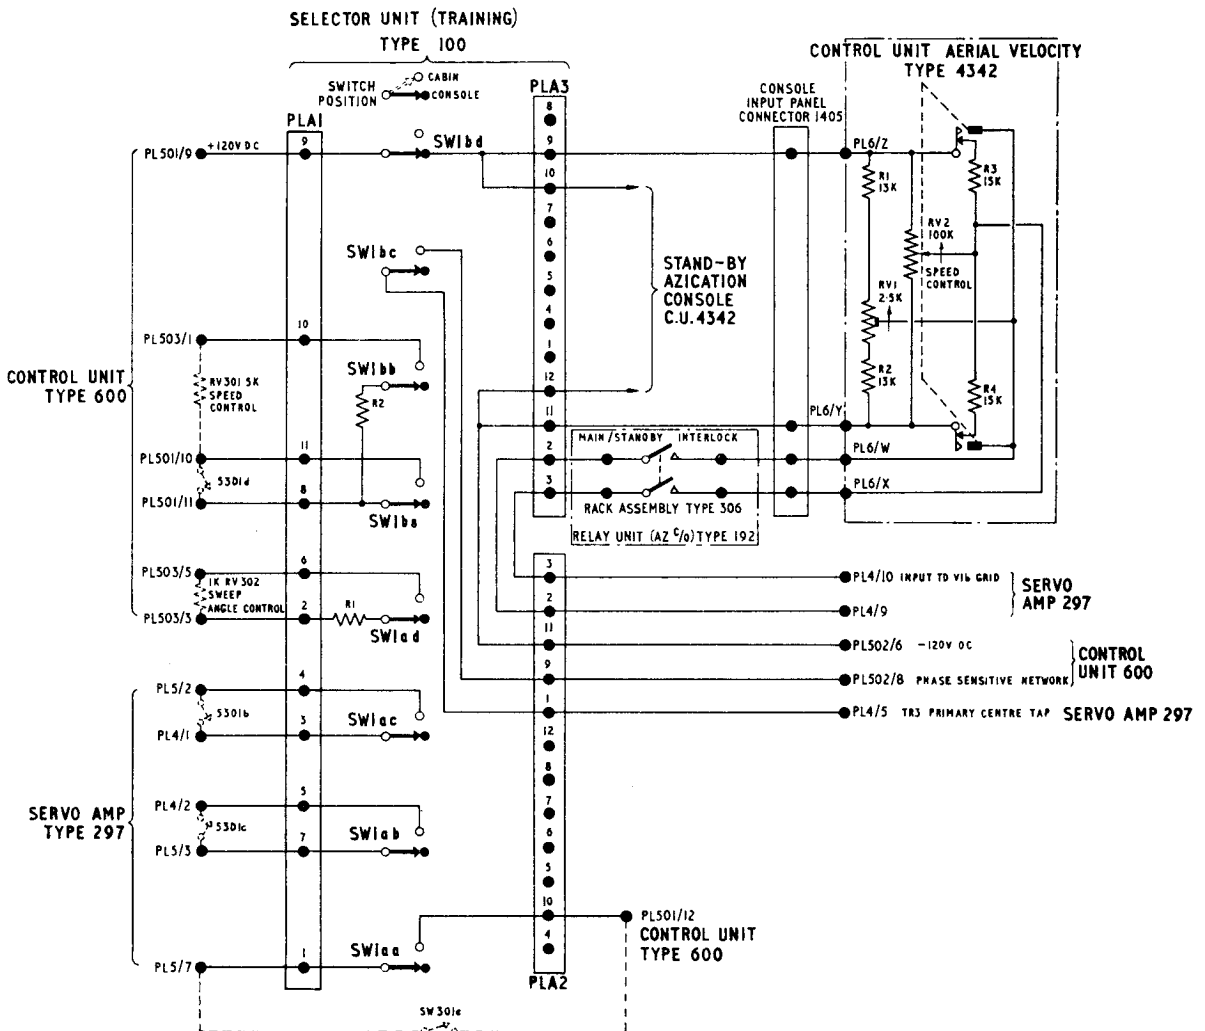

Fig. 5. Interconnections for speed control of a radar Type 13 head
7. The assembly is completed by fitting the sheet-metal or fibreglass outer desk cover, which protects the components on the control desk and provides a convenient ledge for an elbow-rest or for writing (fig. 5, Chap. 2, Sect. 1 of this Part). The sheet metal desk cover carries studs which engage in keyhole-shaped slots in the sides of the console. Removal of the cover is effected by striking it underneath at each end and lifting it upwards and outwards, clear of the control desk.
standby console and completes the connection to the turning gear via the selector unit Type 100. Fig. 5 gives the interconnections between the control unit 4342 and associated equipment for controlling one Type 13 head. The selector unit (training) Type 100 has six identical channels, only one of which is shown in fig. 5. Full details of the control system are given in A.P.2886H.